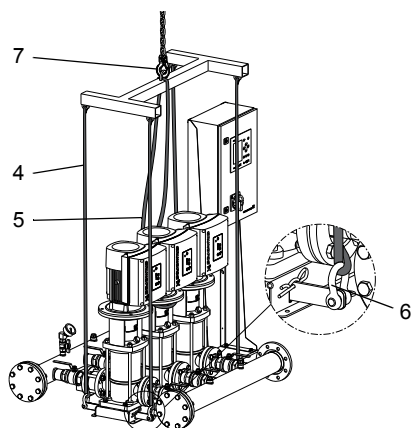

Fig. 5 Lifting gear that ensures a vertical lift
- Use lifting gear that ensures a vertical lift. See fig. 5.
- Use a safety strap around one of the pump motors to prevent the system from tilting. See fig. 5.